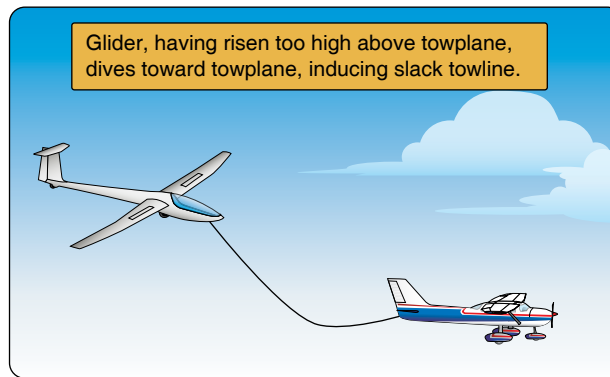

Figure 8-8. *One method of generating tow line slack.*
- Glider dives toward towplane [Figure 8-8]